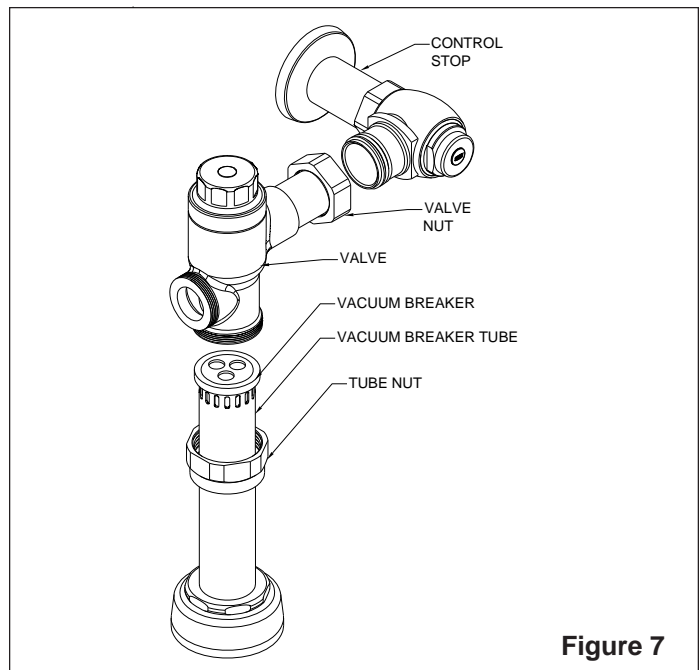

Figure 7
STEP 7 - Valve Installation (Figure 7)